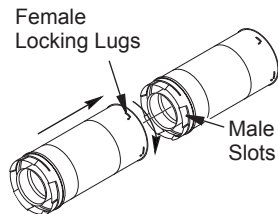

Figure 8 - Vent Pipe Connections
**Twist-Lock Procedure:** Female ends of pipes have locking lugs (indentations). These lugs will slide straight into matching slots on male ends of adjacent pipes. Push pipe sections together and twist one section clockwise approximately one-quarter turn until sections are fully locked (see Figure 8).